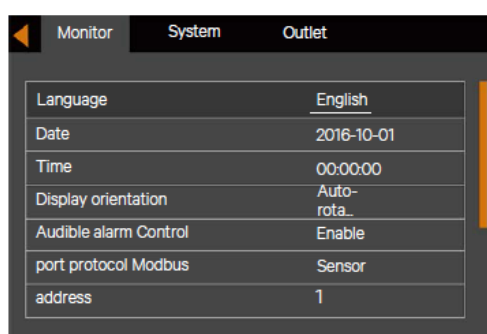

Figure 5-13 Changing Language
4. Press the or key to select your required language, then press the key to confirm it. At this point, the LCD information will be displayed in your selected language. See Figure 5-13.